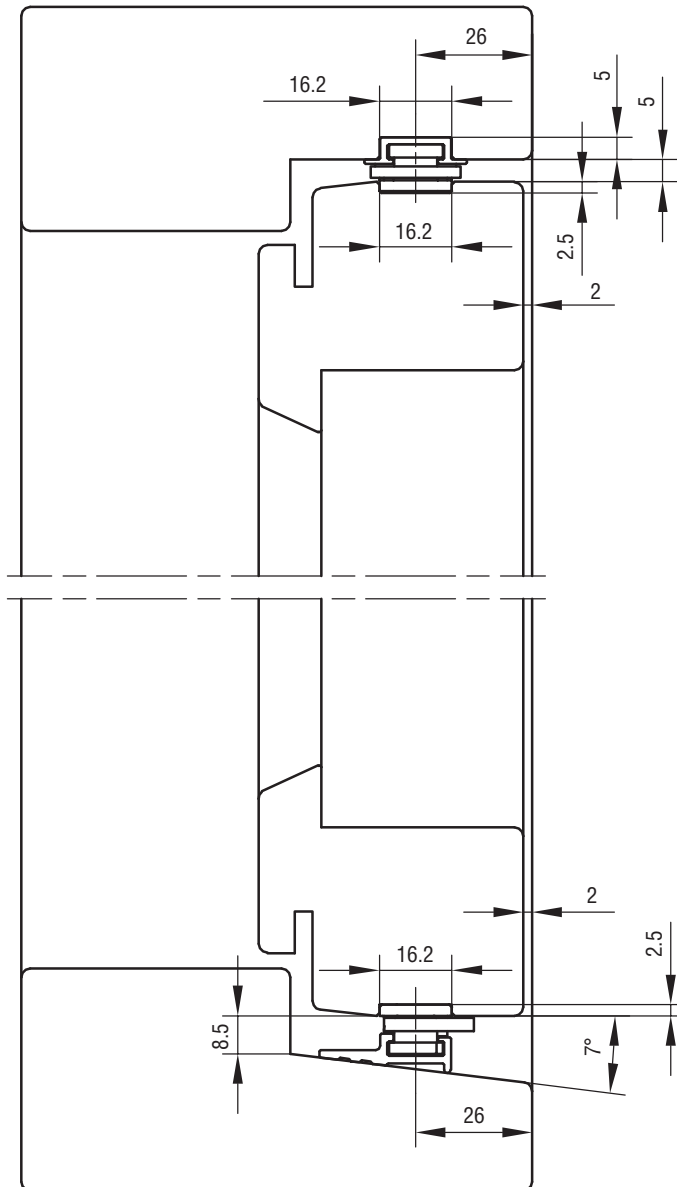

FIG. 1
1. THE FITTING SHOULD BE POSITIONED IN THE GROOVES AT HEAD AND CILL OF FRAME AND SCREWED ON (FIGURE 1 AND 2).